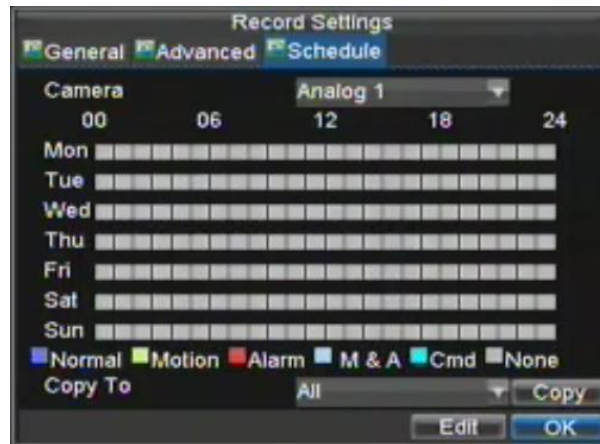

Figure 4. Schedule Settings
2. Select the **Schedule** tab to open the Schedule menu, shown in Figure 4.